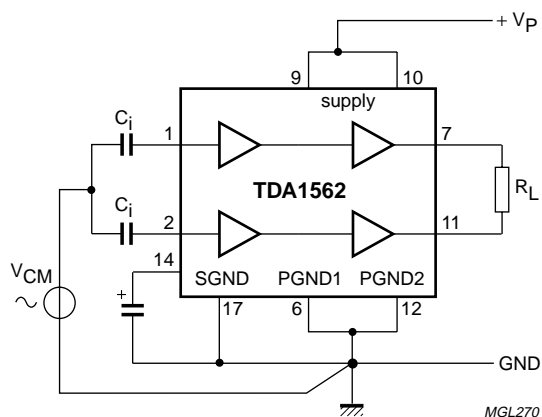

Fig.9 CMRR test setup.
4. Common mode rejection ratio is measured across R_L ; $V_{cm} = V_{cm \text{ max.}} = 2\ V_{PP}$. CMMR [dB] = differential gain (G_v) + common mode attenuation (A_c), (Test setup according Fig. 9; mismatch of input coupling capacitors **excluded**).